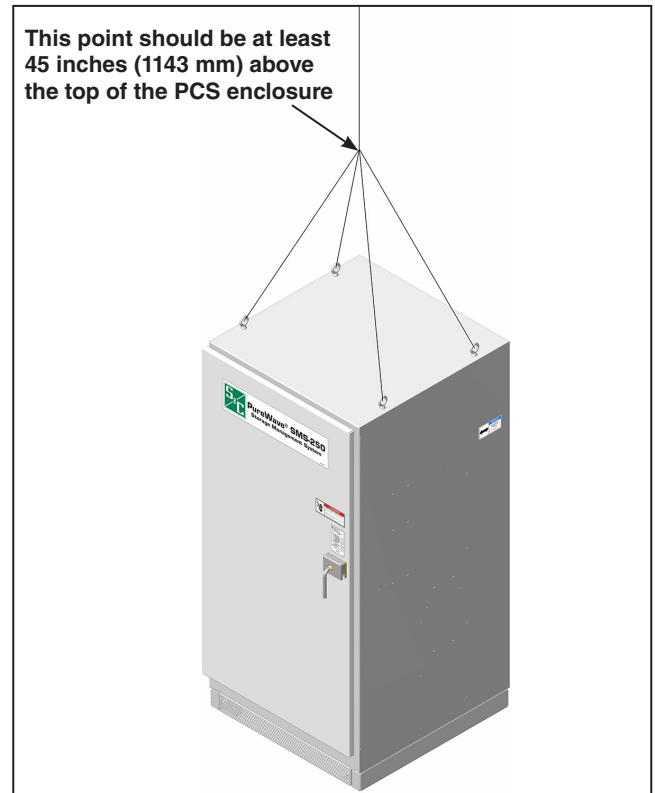

Figure 3. Proper lifting of the power conversion system enclosure.
- (b) Arrange the hoist slings so the lifting forces are distributed equally. See Figure 3 for an illustration of lifting the PCS enclosure. The equipment must be lifted with a crane or forklift.